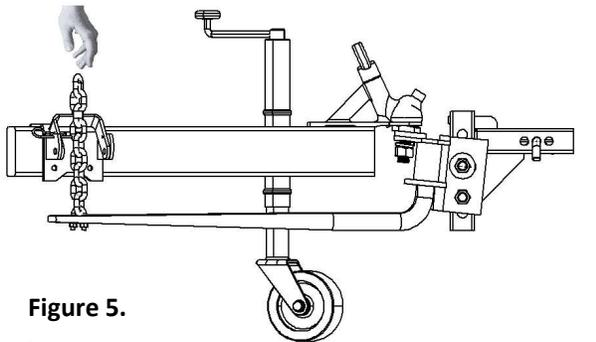

Figure 5.
- e. To find the correct position of the locking bracket on the trailer drawbar, hold the chain straight up and down (without twist) next to the drawbar and make a note of the position. This ensures that when the chains are connected to the bracket, they are vertical. **See figure 5.**